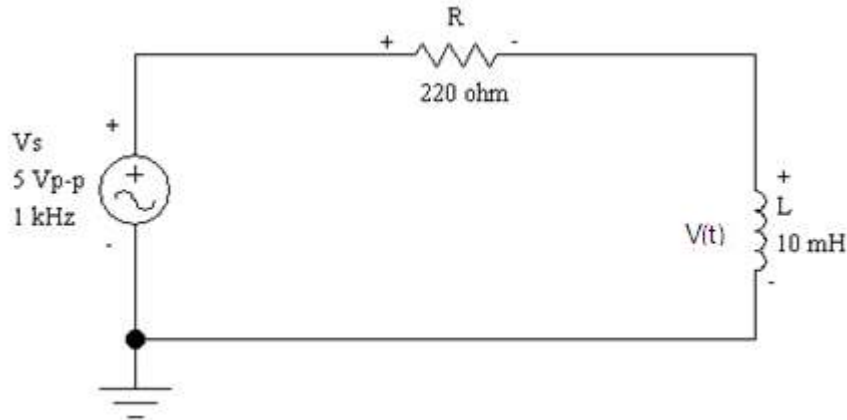

Figure 5.2
2. In Figure 5.2, let  $V_S$  be a square wave from  $-2.5\text{ V}$  to  $2.5\text{ V}$  ( $5\text{ Vpp}$ ) with a frequency of  $1\text{ kHz}$ ,  $R_1 = 220\ \Omega$ ,  $L_1 = 10\text{mH}$ . Calculate  $\tau$  and sketch the charging and discharging of  $V(t)$ . Also, show a computer simulation.
5. Construct the circuit shown in Figure 5.2. Set up the function generator to produce a square wave from -2.5 V to 2.5 V (5 Vpp) with a frequency of 1 kHz.